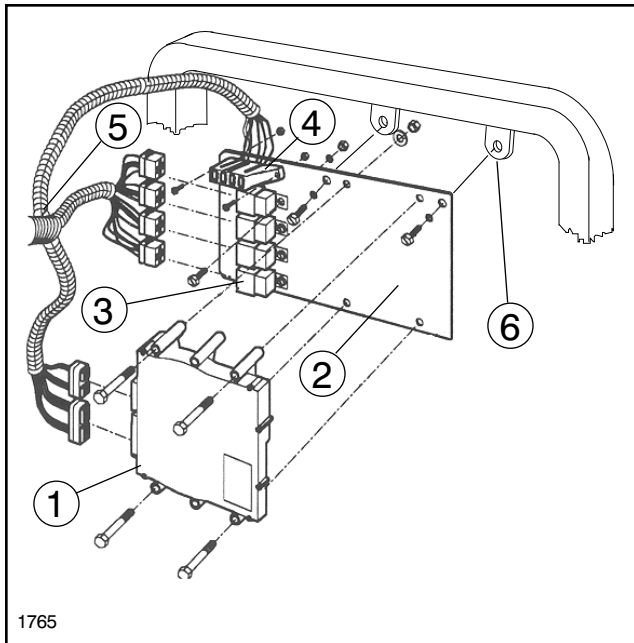

FIG. 1
1. Mount ECU to Plate using four (4) 1/4 NC x 2-1/2" hex hd cap screws, lock washers and hex nuts. See FIG. 1.
2. Mount four (4) Relays to Plate using 1/4 NC x 5/8" hex hd cap screws, lock washers and hex nuts.
3. Mount Fuse Block to Plate using two (2) # 10 NCx5/8" rec. hex hd. mach. screws and hex nuts.
5. Mount ECU plate to Vehicle post on left side under Dash, using two (2) 5/16 NC x 3/4" cap screws and lock washers. See FIG. 1.